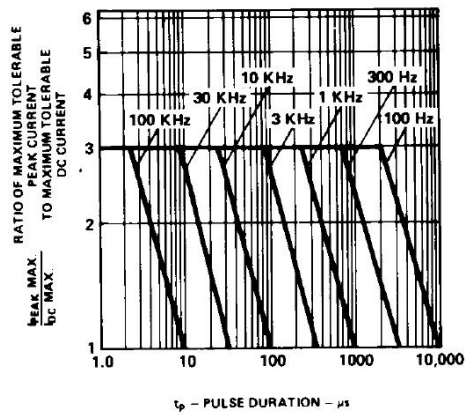

Figure 2. Maximum tolerable peak current vs. pulse duration. (I_{DC} MAX as per MAX ratings).
- See Figure 2 to establish pulsed operating conditions.